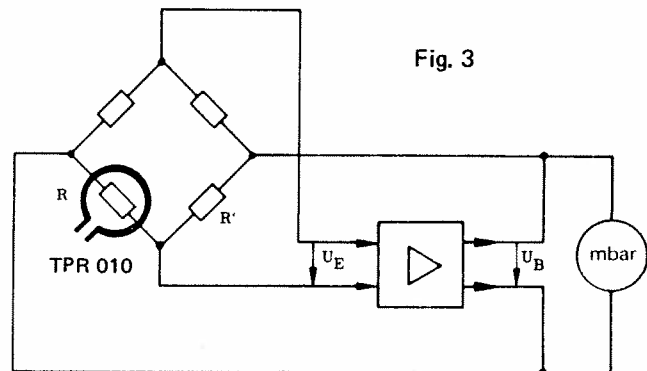

Fig. 3
b) Circuit with balanced Bridge (Fig. 3)